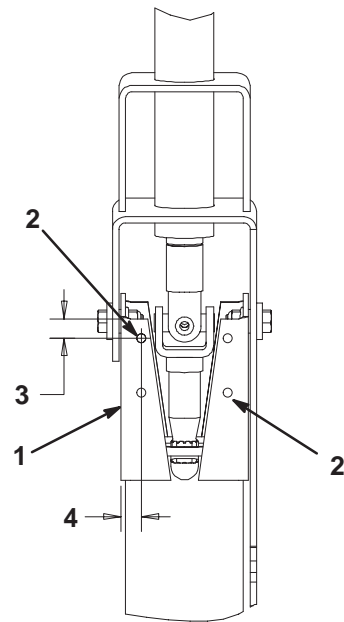

Figure 2
2. Use the dimensions shown in Figure 2 to locate, mark, and drill a hole (1/4 in. diameter) in the left-hand side of the steering column mount. Use the flasher bracket as a template to locate, mark, and drill a second hole (1/4 in. diameter) diagonal to the first hole.